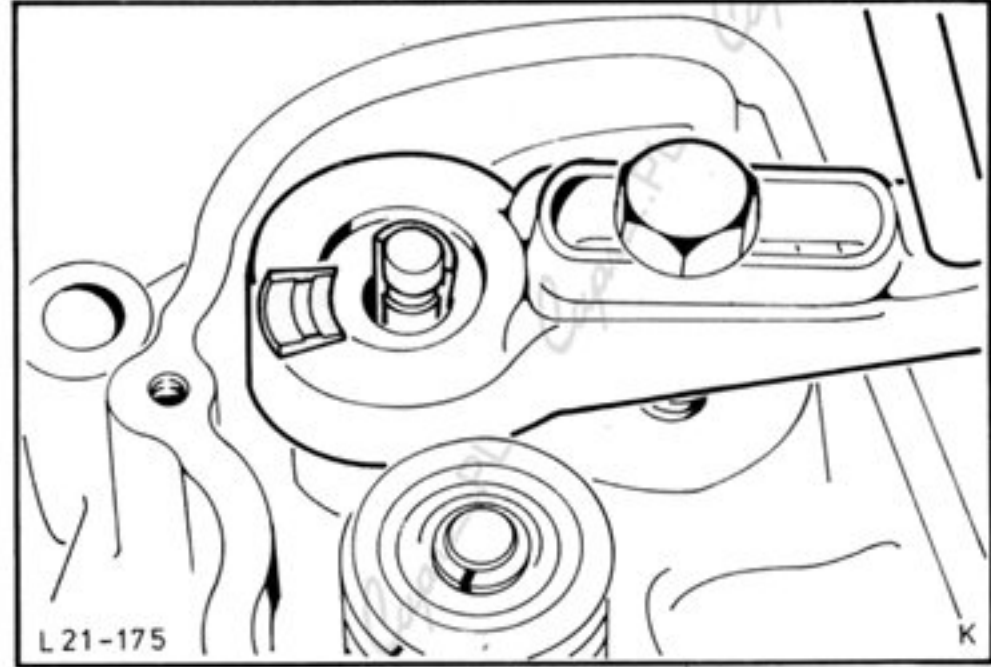

Fig.109. Remove collets.
7. Press valve spring down, using Special Tool 21-056, remove collets, Fig.109, and release valve spring. Remove valve spring plate and valve spring. Remove oil seal.